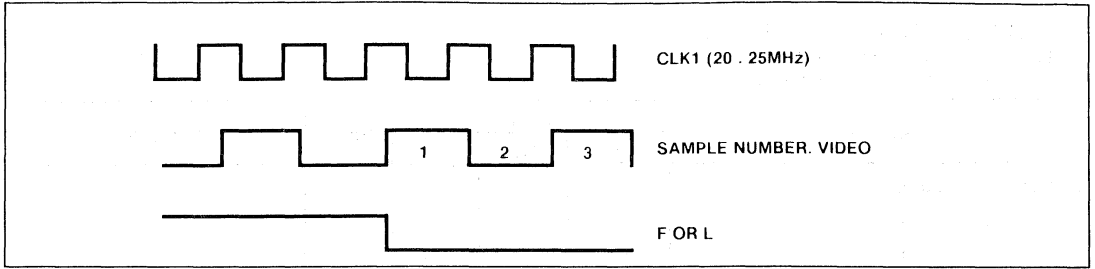

Fig.4 Timing diagram (see AC characteristics for details)
- For F and L, transition takes place on rising edge of video sample 1, See Fig. 4.